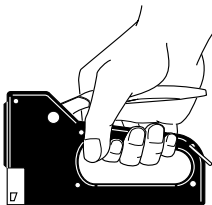

Figure 5
2. Grip tool firmly. Press tool against work surface (see Figure 5).